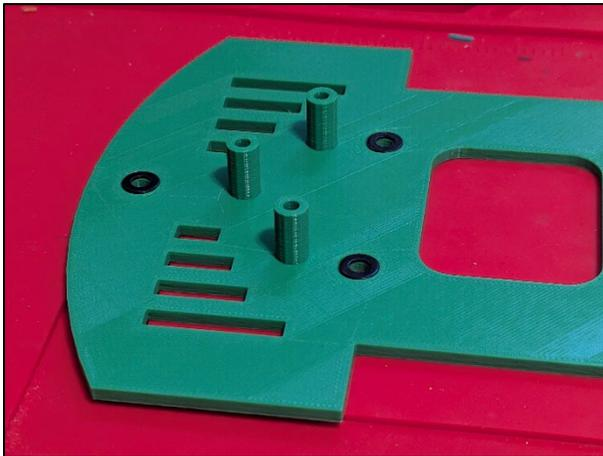

Figure 46 Plate A with washers installed
1. Super glue five M4 washers in the larger indents ³⁰ on the top of extension frame plate A as shown in **Figure 46**.